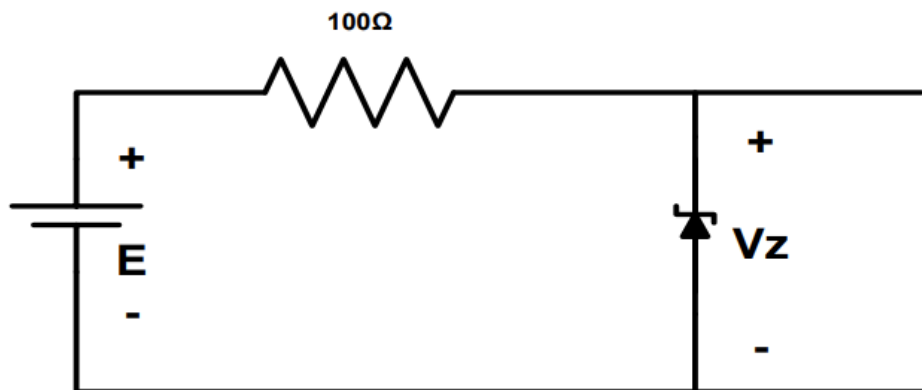

Figure 8. Zener Diode Circuit 1
- Figure 8. Zener Diode Circuit 1